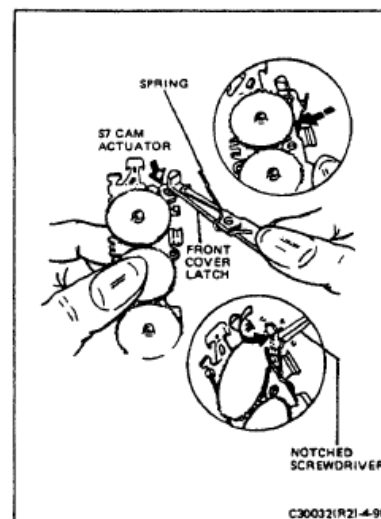

FIGURE 4-98 INSTALLING FRONT COVER LATCH & SPRING
2. Identify the S7 cam actuator on the gear train assembly (Figure 4-98). Position the S7 cam actuator pin on the latch into the cam actuator on the gear train.
6. Using a notched screwdriver, position the end of the latch spring under the clip on the outer plate (Figure 4-98).